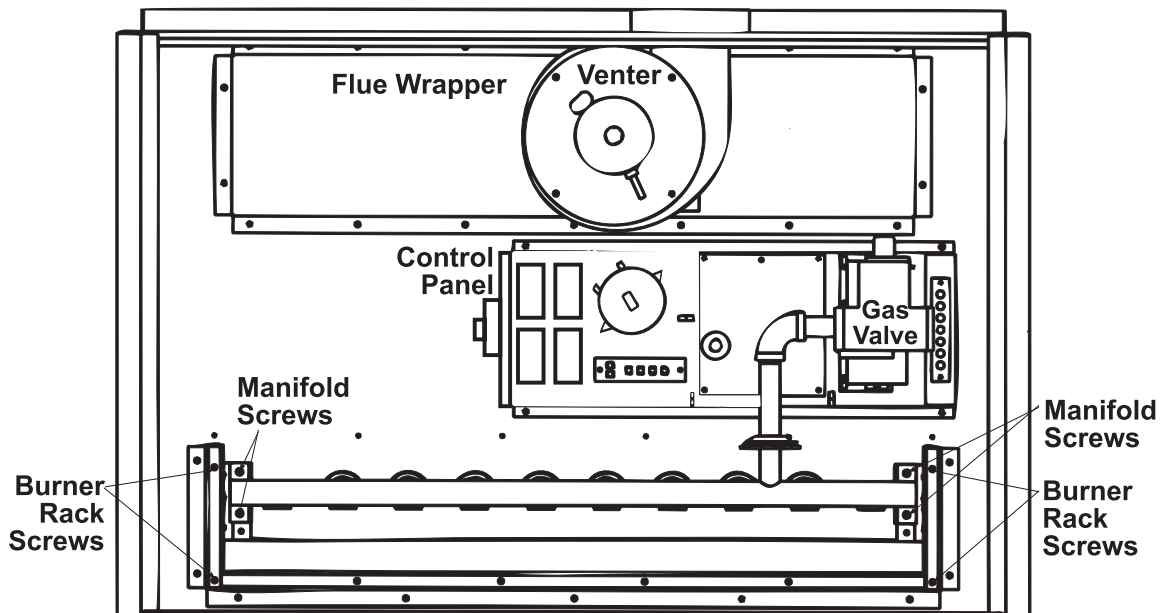

Figure 29. Burner Rack Removal
- b. Remove screws (see **Figure 29**) that secure manifold to burner rack. Slide manifold from burner rack.
- c. Remove screws (see **Figure 29**) that secure ends of burner rack to cabinet. Carefully pull burner rack away from heater.